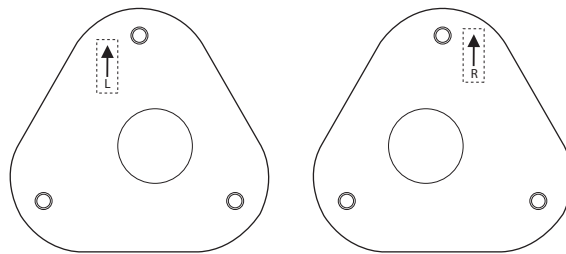

fig. 8
3. Before inserting the new strut assembly, look at the top of the supplied upper mount. Left and right struts are indicated on this mount with either a large "R" or "L" along with an arrow. This arrow must point toward the front of the vehicle (fig. 8). Insert the appropriate strut into the pocket, align the upper bracket with the arrow pointing to the front of the vehicle, and reinstall the upper mount nuts. Torque to 37 Nm (27 ft./lbs.).